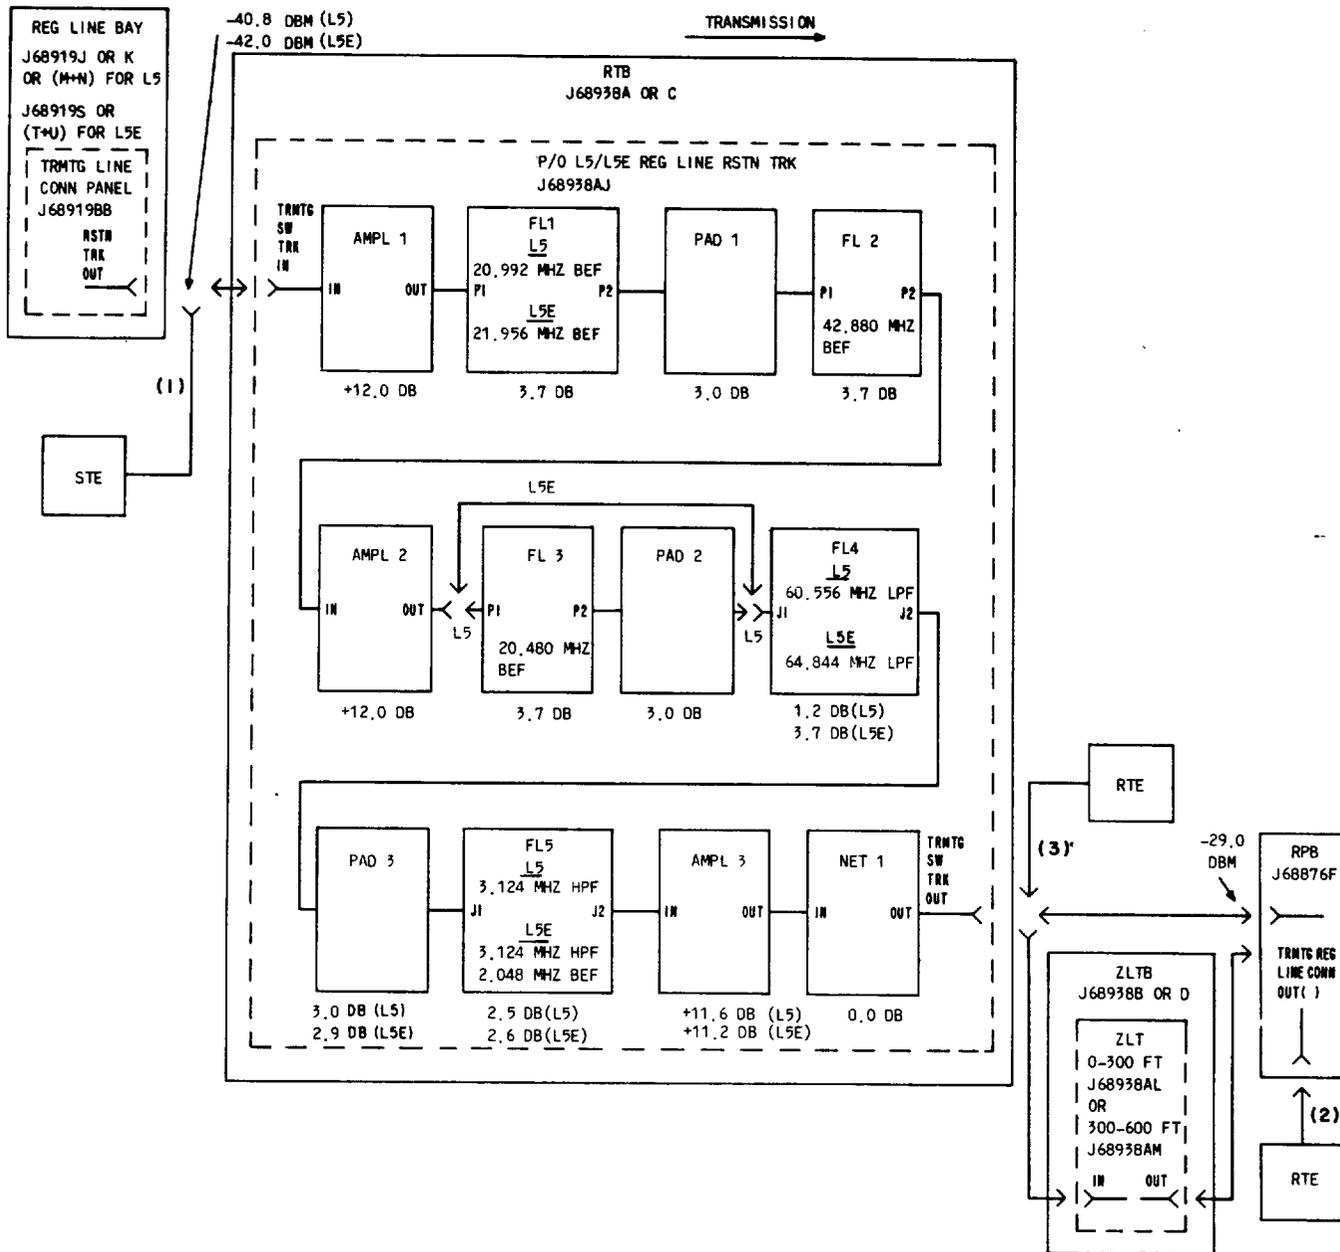

Fig. 11—L5/L5E Regular Line Transmittng Switch Out Restoration Trunk Circuit
4	By using office records, locate the TRTMG LINE CONN panel of interest at the regular line bay and remove the cable from the RSTN TRK OUT jack. Connect the STE to the cable [Fig. 11, patch (1)].
5	Connect the RTE to the TRMTG REG LINE CONN OUT () jack at the RPB [Fig. 11, patch (2)].
9	Move the RTE to the TRMTG SW TRK OUT jack at the RTB [Fig. 11, patch (3)].
- 18 If the requirement in Step 17 is met, move the RTE back to the RPB [Fig. 11, patch (2)], restore the coax to the TRMTG SW TRK OUT jack at the RTB, and go to Step 19; if otherwise, troubleshoot the trunk between the RTE and the STE and go back to Step 11.
57	Remove cable from the STE and restore in the RSTN TRK OUT jack in back of the TRMTG LINE CONN panel in the regular line bay [Fig. 11, patch (1)].
58	Remove the RTE from the TRMTG REG LINE CONN OUT jack at the RPB [Fig. 11, patch (2)].